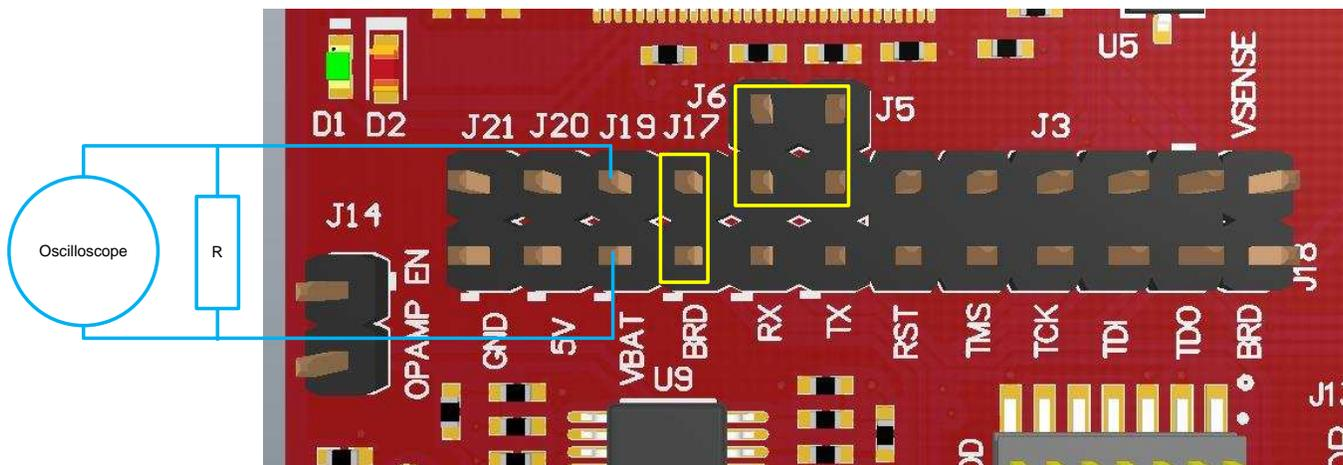

Figure 17. Active Power Measurements (>1 mA)
2. Solder a 0.1- Ω resistor on a wire, which can be connected to an oscilloscope, as shown in Figure 17. Or, attach a jumper wire between J19 so that it can be used with a current probe.